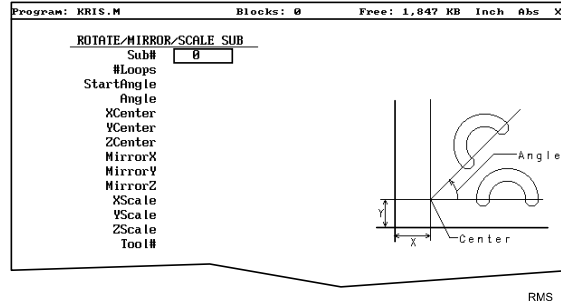

Figure 5-23, ROTATE/MIRROR/SCALE SUB Graphic Menu
2. Press **RMS (F6)**. The **ROTATE/MIRROR/SCALE SUB** Graphic Menu prompts for labeled values. Refer to **Figure 5-23, ROTATE/MIRROR/SCALE SUB Graphic Menu**.